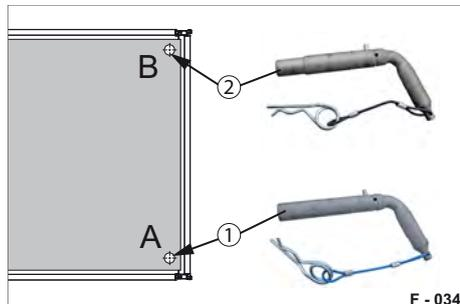

Fig. 57 Socket pin at rear inserted
- ▶ Insert and secure the socket pin (Fig. 57/1 & Fig. 57/2) in the rear tilting bearings.